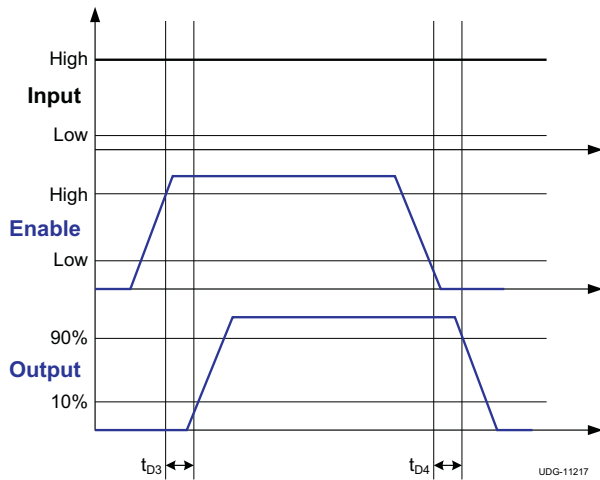
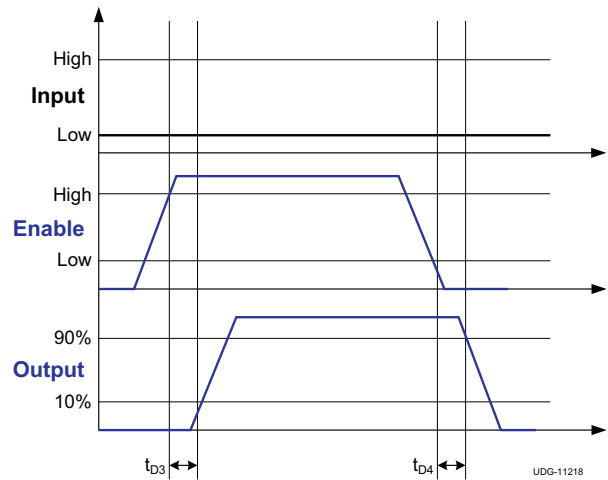
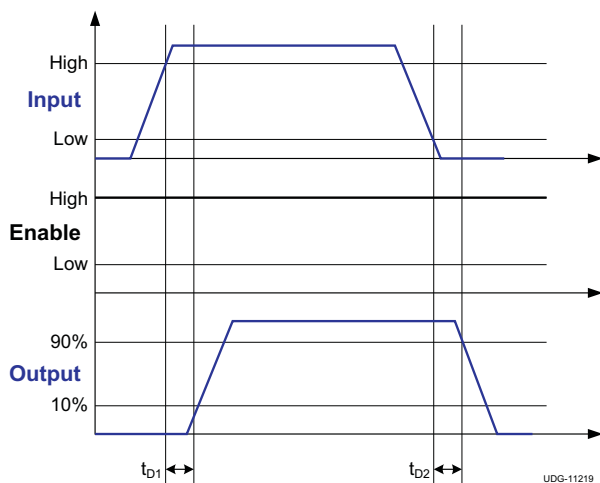

Figure 1. Enable Function (For Non-Inverting Input Driver Operation)
Figure 2. Enable Function (For Inverting Input Driver Operation)
Figure 3. Non-Inverting Input Driver Operation
(3) See timing diagrams in Figure 1, Figure 2, Figure 3 and Figure 4